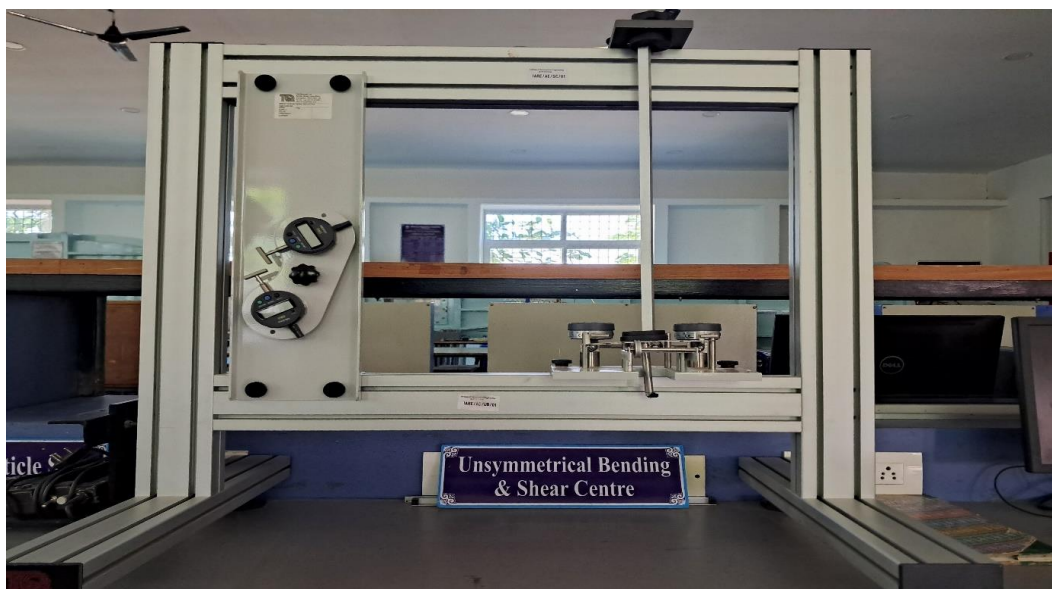

Fig. 6.1: Equipment for determination of shear centre of a closed section beam
- I. Determine the shear centre of a given closed section beam by using the apparatus shown in Fig. 6.1.